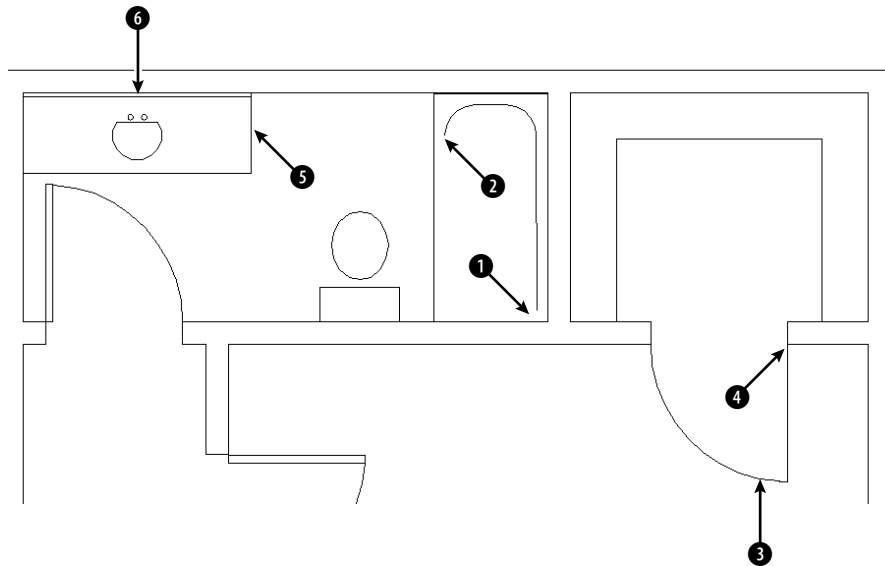

Figure 4-29: Using point filters to specify the start of a line.
4. At the **Specify first point:** prompt, pick the endpoint at ❶ in Figure 4-29.
5. At the **Specify next point or [Undo]:** prompt, type **.x ↵**. At the **of** prompt, pick the endpoint at ❷ in Figure 4-29.
6. You see the **(need YZ):** prompt. (Because you're drawing in 2D, you can ignore the Z.) Choose the endpoint at ❶ in Figure 4-29. AutoCAD or AutoCAD LT draws the line segment to the point defined by the X coordinate of ❷ and the Y coordinate of ❶.
9. At the **Specify next point or [Undo]:** prompt, type **.y ↵**. At the **of** prompt, pick the endpoint at **4** in Figure 4-29.